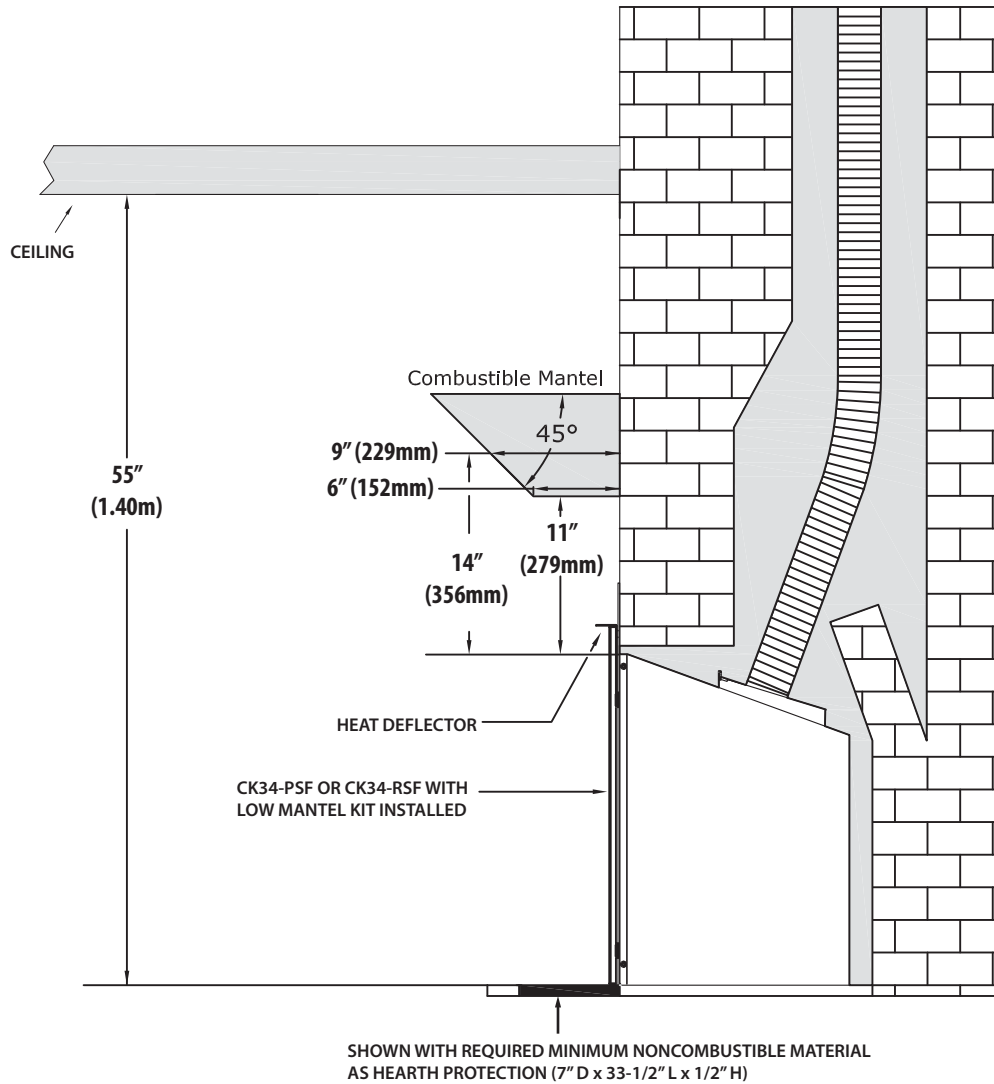

Figure 8.4, #CK34-LMK Mantel Clearances with #CK34-PSF or #CK34-RSF Installed
- CK34-LMK Mantel Projections (**FOR USE ONLY with safety barriers #CK34-RSF & #CK34-PSF**) - As referenced in Figure 8.4, the 6" (152mm) mantel can start at 11" (279mm) above the top of the appliance only when the low mantel kit is installed. Mantel projections can increase 1" (25mm) of depth for every 1" (25mm) of height starting at the 6" (152mm) mantel